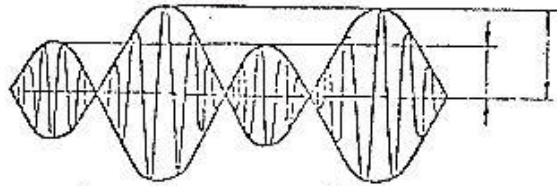

Fig. 6-2. Waveform before DC balance is adjusted
* Adjust the waveform which is observed on the oscilloscope so that it resembles the one in Fig. 3-12, using the CH-1 DC balance control (2). Then, make the 'a' and 'b' amplitudes (see Fig. 6-2) equal.
* Adjust the CH-1 gain control (3) and make sure that the amplitude comes within a $4V \pm 0.4p-p$ range.